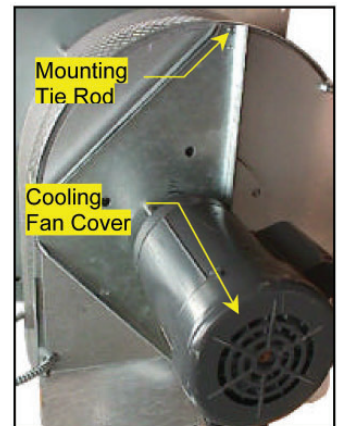

Figure 11
2. After inspecting the motor and blower wheel for shipping damage, grasp the motor assembly and carefully insert the blower wheel into the venter body, using caution to avoid damaging the wheel or displacing balancing weights. Grasp the wheel heat shield and guide it onto its mounting studs, then guide the motor bracket onto its three mounting tie rods. (See Figure 11) While supporting the motor, place a lock washer and nut on the uppermost tie rod end and fasten finger tight. The motor assembly will now 'hang' by the uppermost tie rod and may be released.
4. Using the supplied wire nuts, make the wiring connections to the motor as discussed in the WIRING section. Verify that the motor is wired for the appropriate voltage and overload heater, and for the proper rotational direction. (CW when facing motor cooling fan end, as shown in Figure 11)